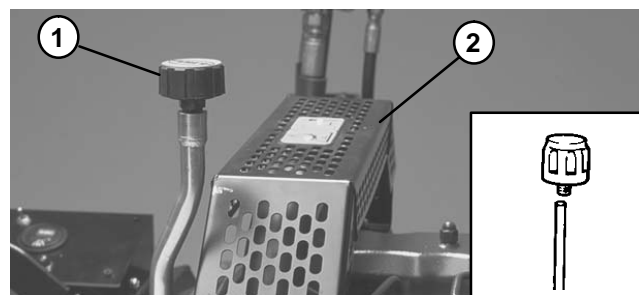

Figure 96
2. Clean around the breather and unscrew it with a wrench. Install new breather (Fig. 96).